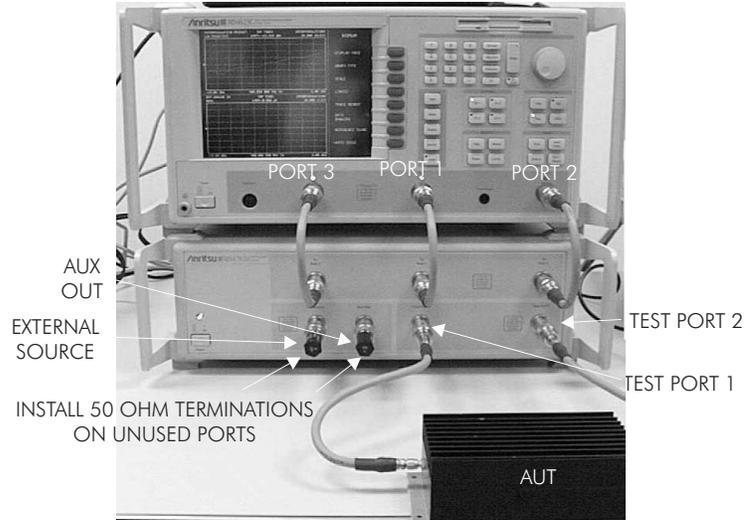

Figure 2-3. ME7840A Front RF Cable Connections (through-line shown between test port 1 and test port 2)
A listing of the non-optional-accessories always supplied with PATS is listed below. The cables and terminators are shown in Figures 2-3 and 2-2, on page 2-5.
Step 2. Install the three front RF interconnect cables. Figure 2-3 (following page) shows the installation of the RF interconnect cables between the front panel of the MS462XC and the front panel of the Test Set. Table 2-1 lists the applicable connectors by designation or function.